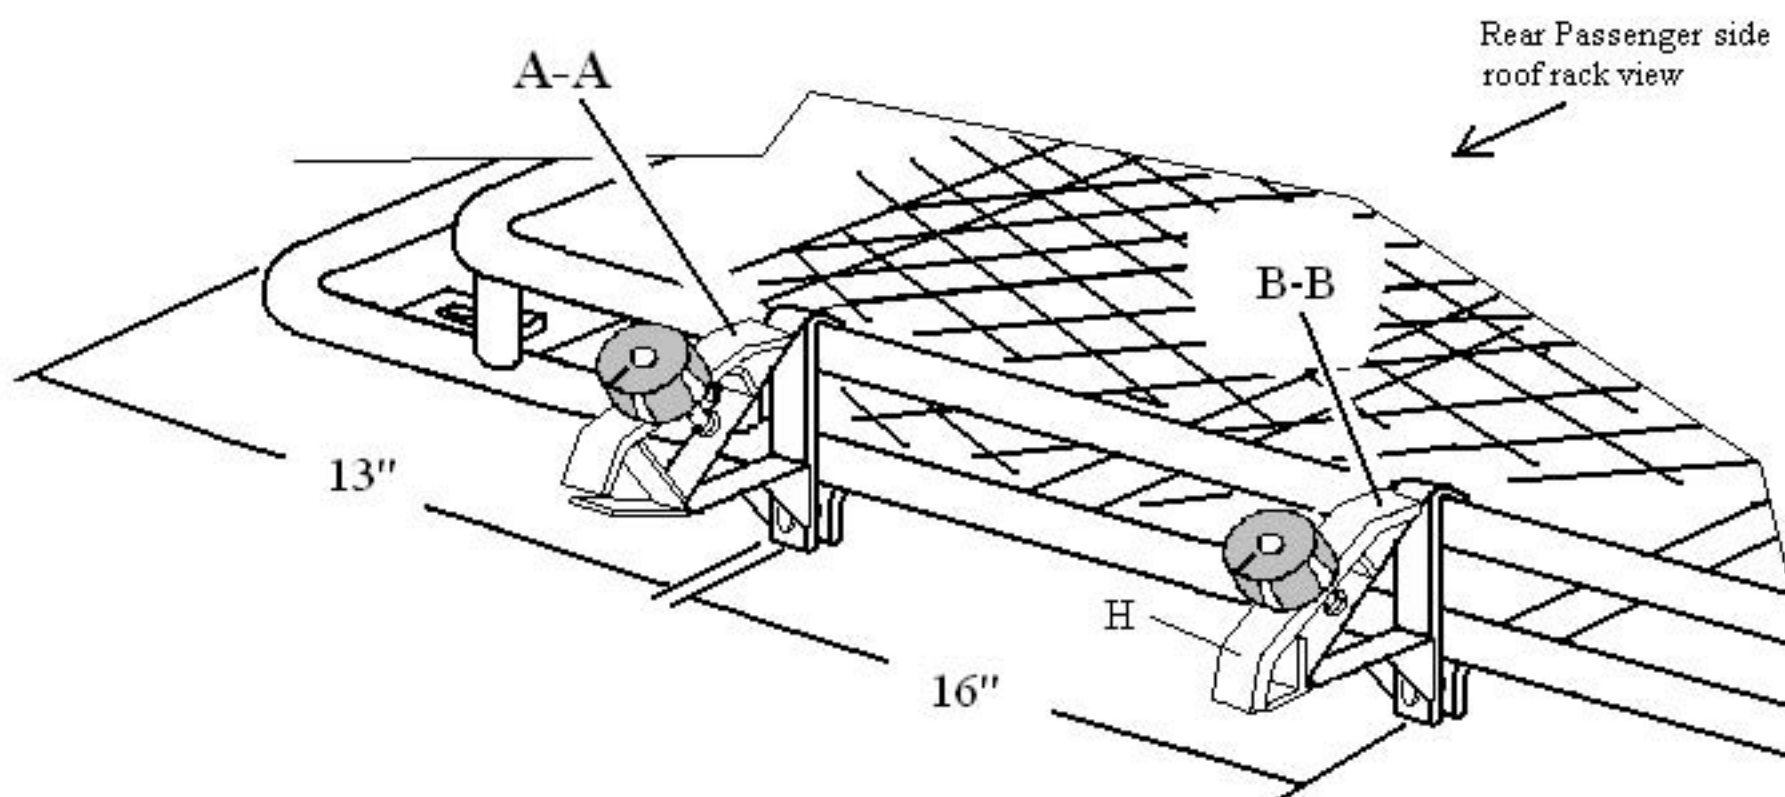

Fig. 5
- 1- Referring to page 4 Fig. 4 loosen bolt "D" and swing clamp "B" either to the right or left of the Axe / Shovel bracket "A-A". Place the hook end of the Axe / Shovel bracket "A-A" on the top roof rack tube as shown in Fig. 3 and 4 on page 4 at approximately 13" from the end of the Gobi roof rack as shown in Fig. 5 page 5 then swing clamp "B" back to it's upright position as shown in Fig. 3 page 4 then fully tighten bolts and nuts "D" and "F" at this time.
- 2- Refer to page 5 Fig. 5 and continue to the second bracket "B-B" install the bracket in the same manner as bracket "A-A" but at the distance of 16" as shown on page 5 Fig. 5 from bracket "A-A". Fully tighten the bracket at this time.